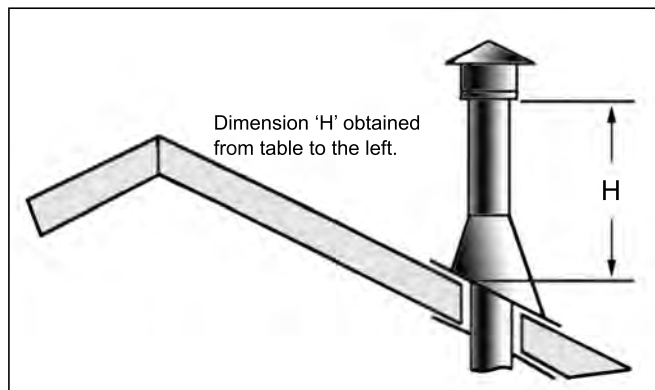

Figure 40: Height of Vertical Termination; Reference Table 3.
Step 7. Continue to add Pipe Sections until the height of the Vent Cap meets the minimum building code requirements described by your local codes. In the absence of local codes, make sure the terminal is 2 feet (610mm) above anything within 10 feet (3046mm) of the vent (refer to Figure 40 & Table 3 for clearances for different pitches). Note that for steep roof pitches, the vent height must be increased. In high wind conditions, nearby trees, adjoining rooflines, steep pitched roofs, and other similar factors can result in poor draft, or down-drafting. In these cases, increasing the vent height may solve this problem.
Table 3: Minimum 'H' for Figure 40.